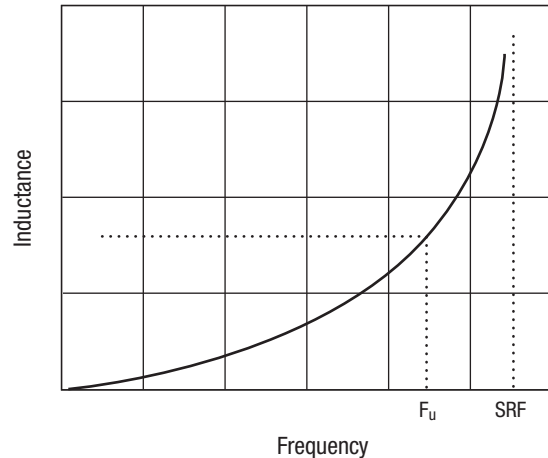

Figure 1. Frequency of Use vs. Inductance
- **Inductance:** (see Figure 1) Available in 0.01 nH increments
- **Frequency of Use (Fu):** (see Figure 1 for definition)